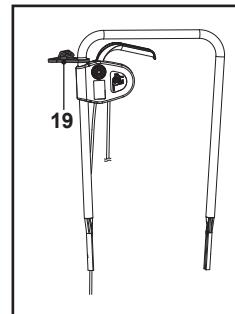

Fig. 3
2. Place the cord retainer (19) above the safety switch box (Fig. 3).
3. Hold the upper handle bar (4) with the safety switch button (1) facing upwards. Align the mounting holes of the upper handle bar (4) and the lower handle bars (6).